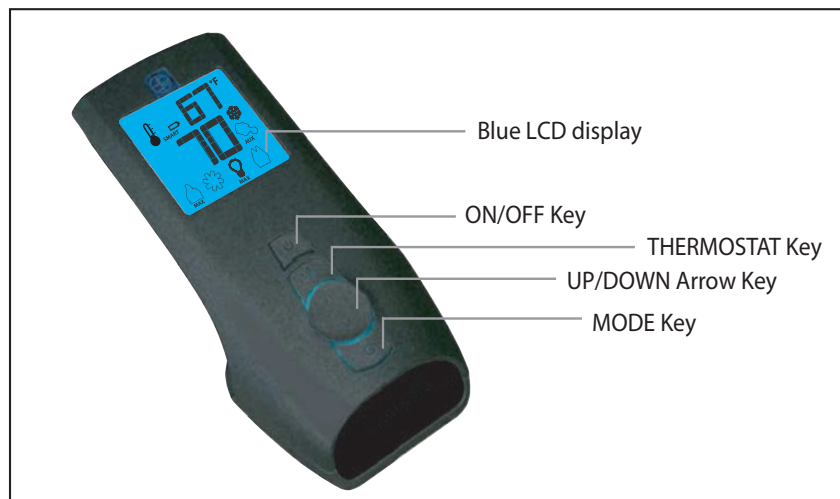
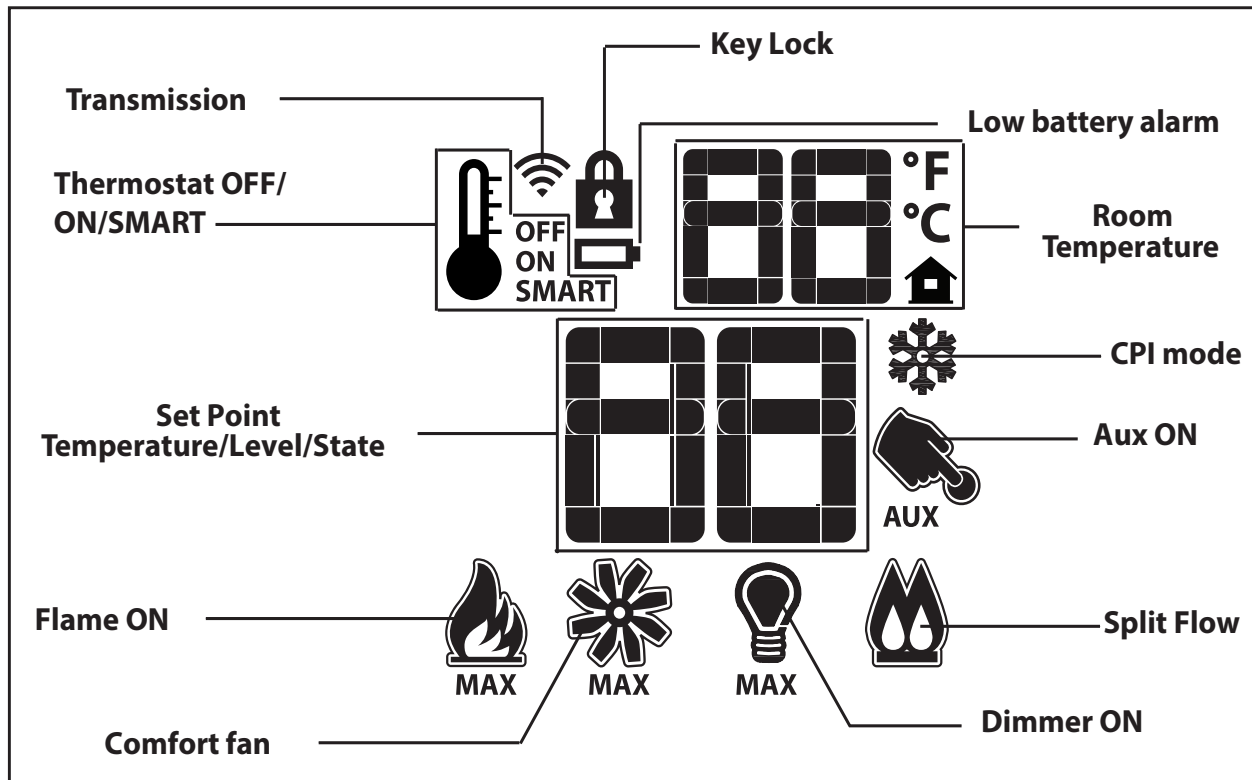
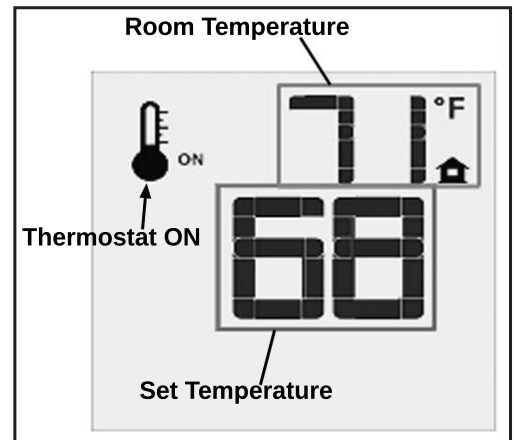
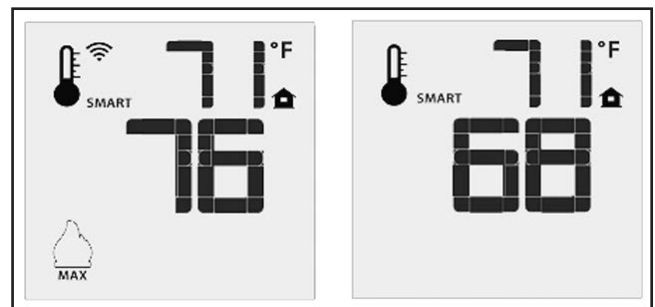

Figure 4: Proflame 2 Transmitter.
Figure 5: Proflame 2 Transmitter LCD Screen.
Figure 9: Remote Control Displays Set Temperature.
Figure 10: Remote Control's Smart Flame Function.
The Proflame 2 Transmitter is a black remote control with a blue backlit lcd display. It uses a streamline design with a simple button layout and informative lcd readout (Figure 5). The Transmitter is powered by three (3) AAA type batteries. A Mode Key is provided to Index between the features and a Thermostat Key is used to turn on/ off or index through Thermostat functions (Figure 4 & Figure 5)
Press the ON/OFF Key on the Transmitter. The Transmitter LCD display will only show the room temperature and Icon (see Figure 9). A single “beep” from the IFC confirms reception of the command and both the pilot light (if the unit is not set to continuous pilot) and main burner will turn off.
The Remote Control can operate as a room thermostat. The thermostat can be set to a desired temperature to control the comfort level in a room. To activate this function, press the Thermostat Key (see Figure 4). The LCD display on the Transmitter will change to show that the room thermostat is “ON” and the set temperature is now displayed (see Figure 9). To adjust the set temperature, press the Up or Down Arrow Keys until the desired set temperature is displayed on the LCD screen of the Transmitter.
The Smart Thermostat function adjusts the flame height in accordance to the difference between the set point temperature and the actual room temperatures. As the room temperature gets closer to the set point the Smart Function will modulate the flame down. To activate this function, press the Thermostat Key (Figure 4) until the word “SMART” appears to the right of the temperature bulb graphic (Figure 10). To adjust the set temperature, press the Up or Down Arrow Keys until the desired set temperature is displayed on the LCD screen of the Transmitter.